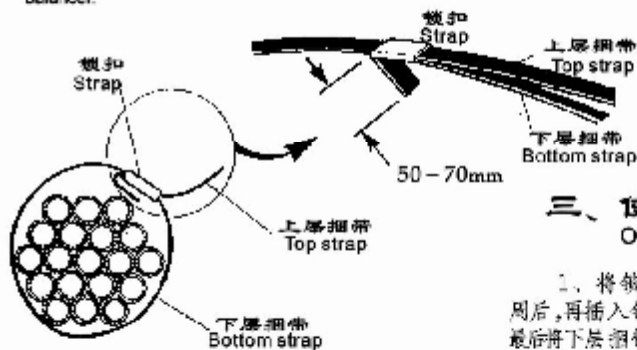

图2 (Fig2)
1. As indicated in Fig2 thread the strap through a seal. Encircle the bundle and rethread the strap end through the seal. Bend the strap back under the seal, about 50-70mm.